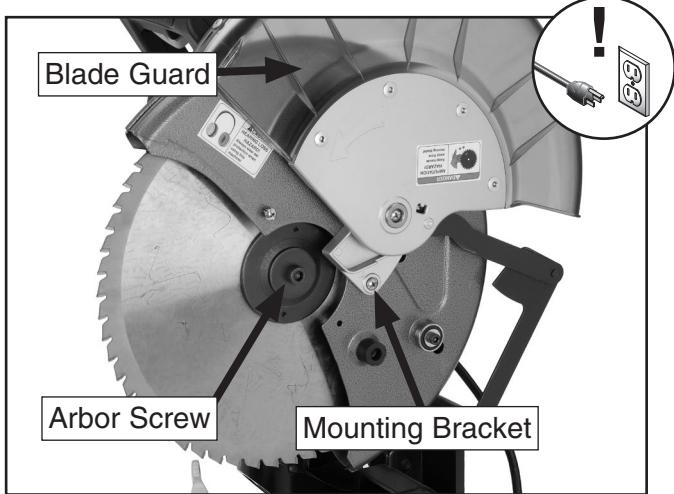

Figure 19. Blade guard retracted.
3. Retract the blade guard. As it rotates, the mounting bracket should also rotate, exposing the arbor screw, as shown in **Figure 19**.